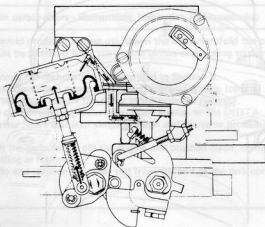

Fig. 3.6. Operation of vacuum controlled throttle valve on the secondary barrel of the Solex DIDTA carburettor. (Sec. 4)
7. A similar enrichment capability is built into the twin-barrel carburetors to augment the main jet during medium speed engine demands. The valve is vacuum actuated and is located above the float chamber (Fig. 3.6).